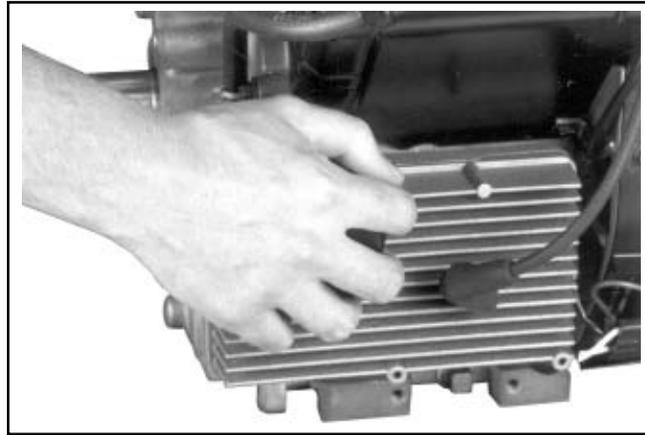

Figure 11-94. Hand Tightening Oil Filter.
3. Hand tighten the filter until the rubber gasket contacts the adapter, then tighten the filter an additional  $\frac{2}{3}$ -1 turn. See Figure 11-94.